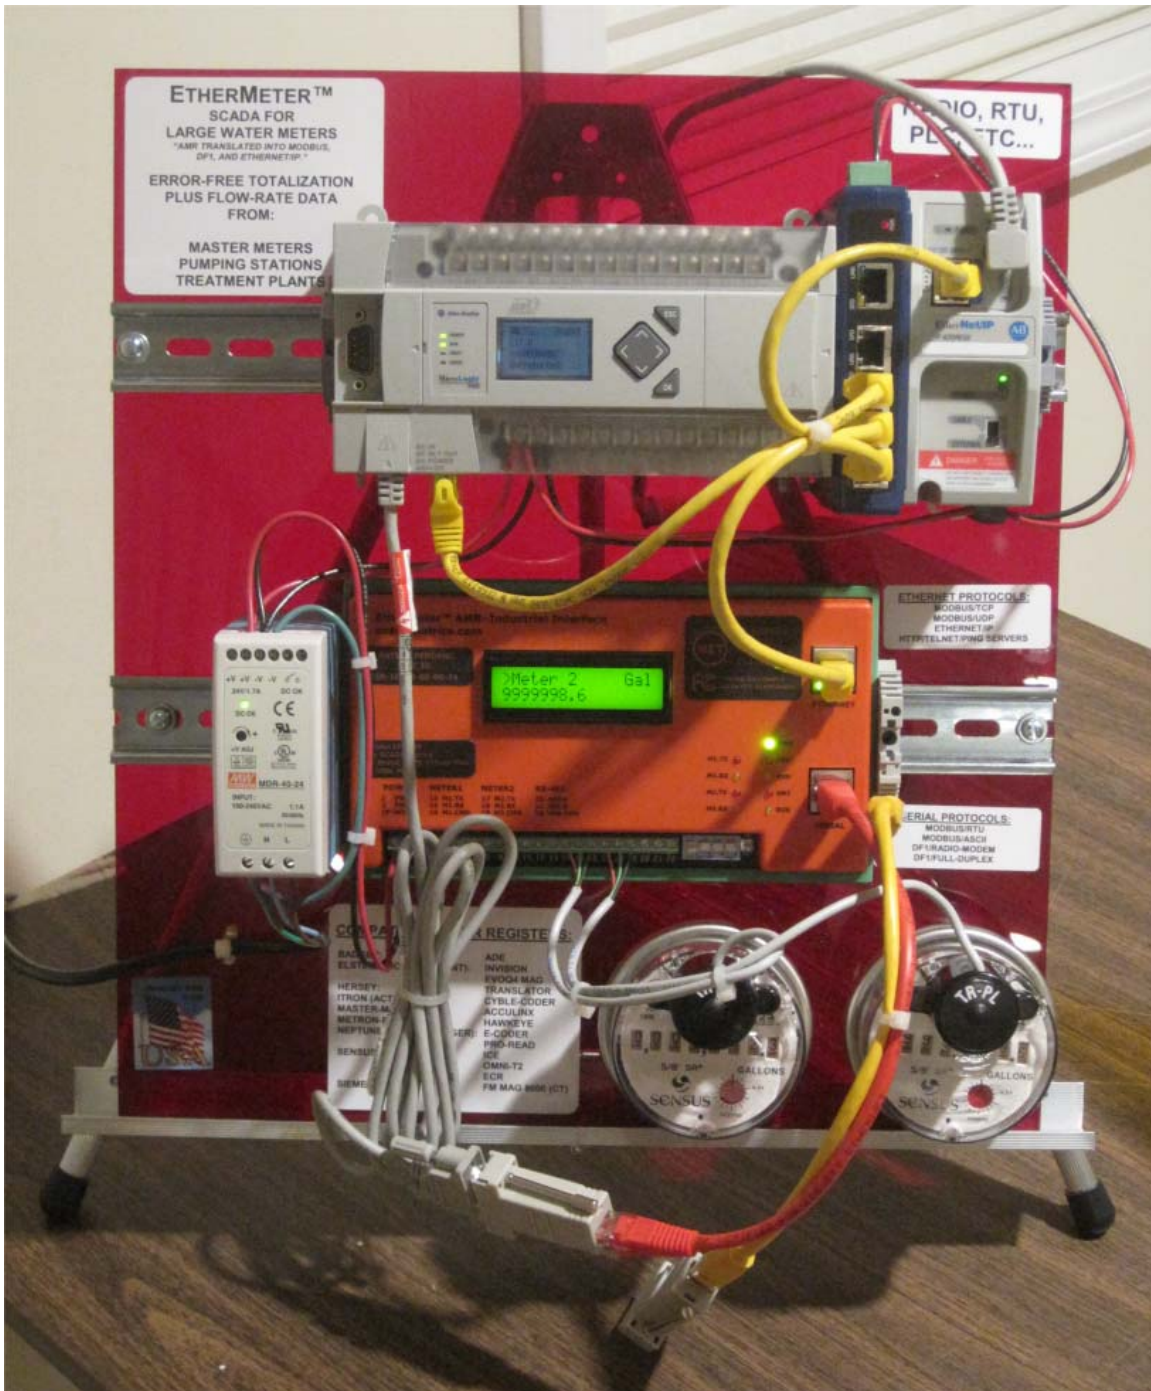

Figure 1. MicroLogix EtherNet/IP Communication Demonstration Panel. MicroLogix 1400 PLC / EtherMeter Hardware and Wiring Configuration.
In this example, the Ethernet ports of the MicroLogix and EtherMeter are wired directly to each other, without an Ethernet switch, using a single Ethernet crossover cable. Alternatively, the Ethernet ports of both the MicroLogix and EtherMeter could be connected to a common Ethernet switch if expanded network connectivity is desired. For reference, the wiring and hardware configuration is illustrated in Figure 1.
The Sensus encoder-type "ICE" registers shown in Figure 1 were replaced with two (2) pulse-based meters.